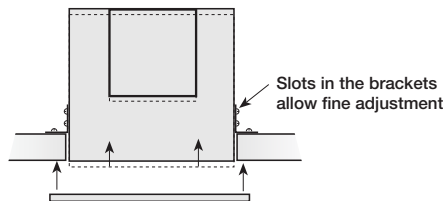

Figure 6 — Adjusting Mounting Brackets
4. For frame construction, position unit between joists. Position brackets such that bottom edge of housing will be flush with finished ceiling, and tighten the adjustable mounting brackets, refer to Figure 6.